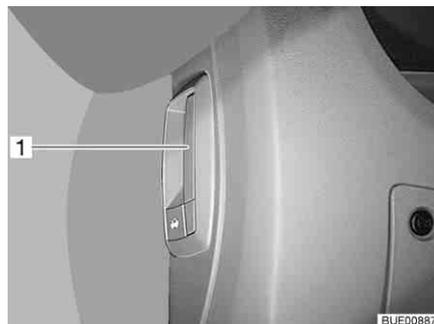

Fig. 40 Release lever for the bonnet (inside the vehicle)
- Pull the lever (Fig. 40,1) on the left under the dashboard or next to it.